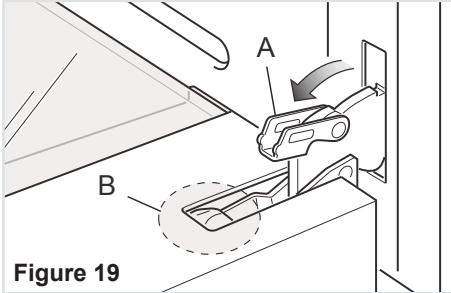

Figure 19
- Open the lever "A" completely on the left and right hinges (fig. 19).
- Gently close the door until left and right hinge levers "A" are hooked to part "B" of the door (figs. 19, 20).
- Open the lever “A” completely on the left and right hinges (fig. 19).
- Gently close the door until left and right hinge levers “A” are hooked to part “B” of the door (figs. 19, 20).